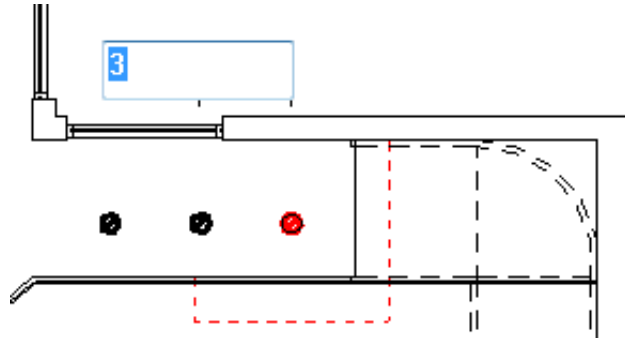

Figure 2–35
- If you have the **Group and Associate** option toggled on, you are prompted again for the number of items, as shown in Figure 2–35.